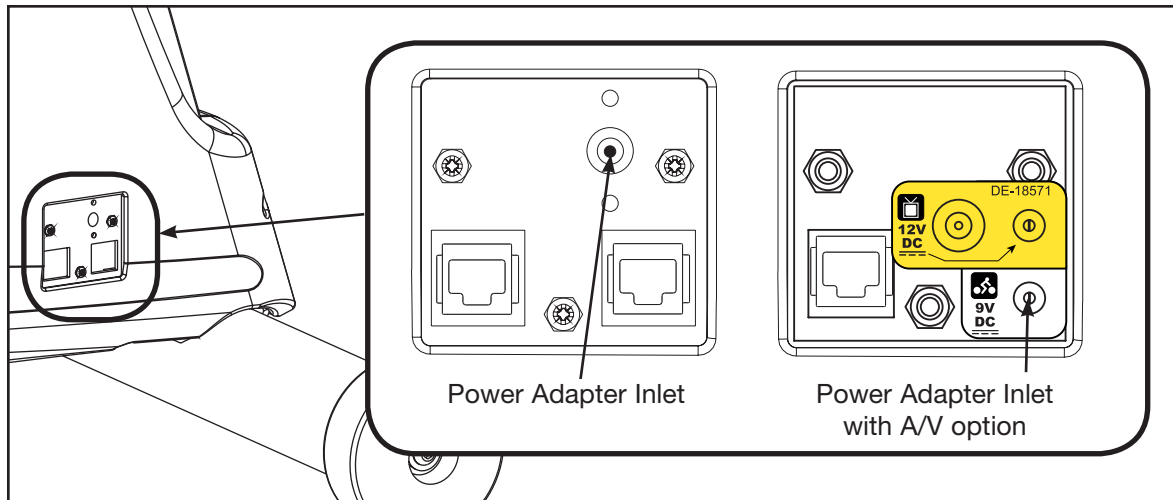

Figure 10
- A. Plug the power adapter into the inlet near the front of the unit. **NOTE: Do not plug the power cord into an outlet at this time.** See Figure 10.